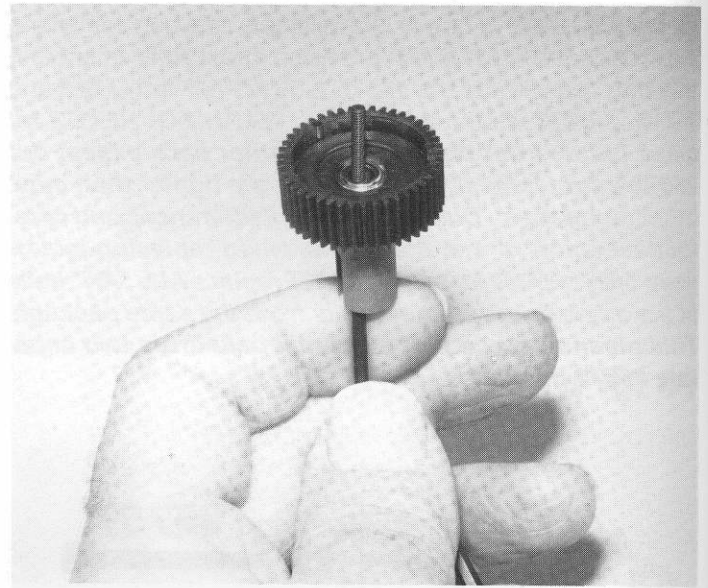

Fig. 53
□ **Fig. 53** Now take the second #6579 diff drive ring from bag A and put it on top of the diff gear over the diff balls and center it as best as you can. Remember, if you are doing the racer's setup, the rounded side will be up. **WARNING!** If you remove the gear at any time before you completely assemble the diff halves, always double check to make sure you do not have both drive rings on the same side. This can be easy to do because one of the drive rings may stick to the diff gear and the other could be stuck to the